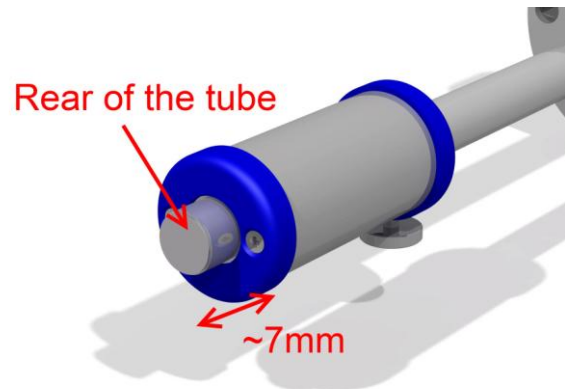

Fig 29 Correct alignment (fully retracted)
- Pull back until the outer magnet coupling is positioned as shown in figure 29.